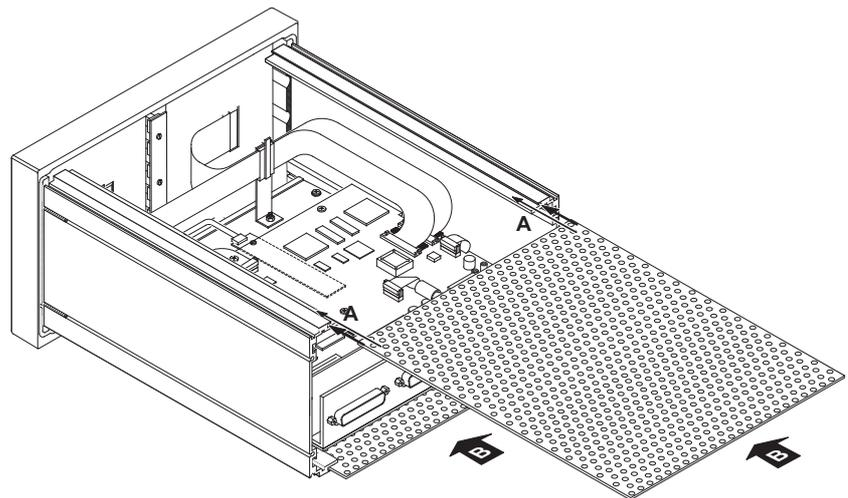

Fig. E 8-32: Moving back the perforated cover metal plates
11. Put the perforated cover metal plates into their guideways (see Fig. E 8-32, A) and move them back to their place (see Fig. E 8-32, B).